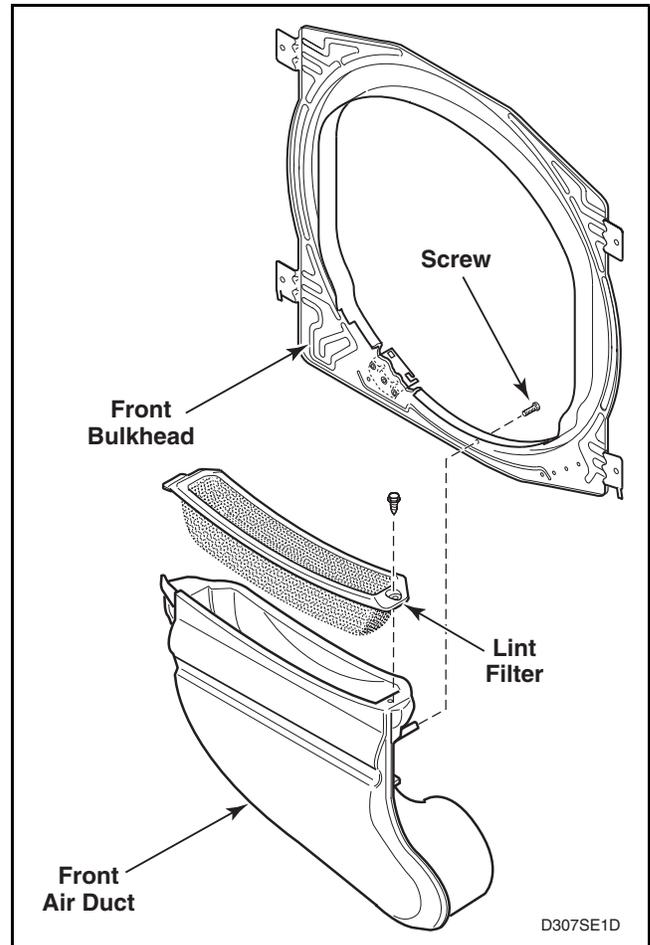

Figure 24
- e. Remove three screws holding the air duct to the front bulkhead inside cylinder. Refer to *Figure 24*.
- d. Remove screws holding air duct to front bulkhead (inside cylinder). Refer to *Figure 24*.